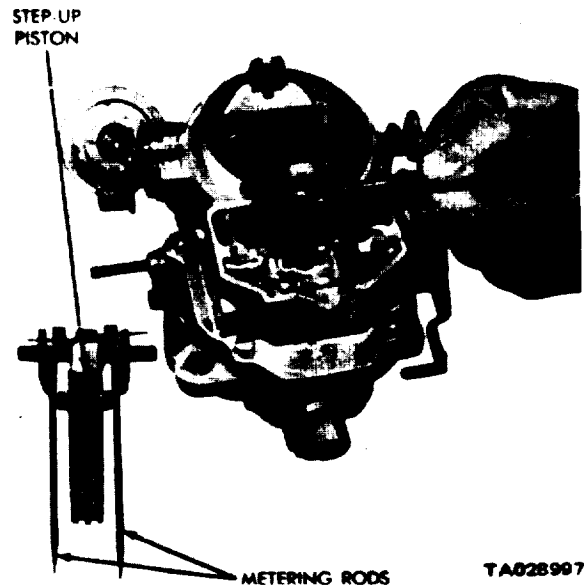

Figure 12-4. Removing or installing the Step-Up Piston Assembly
(6) Lift the vacuum piston and step-up rods straight up and out of the air horn as an assembly (figure 12-4).